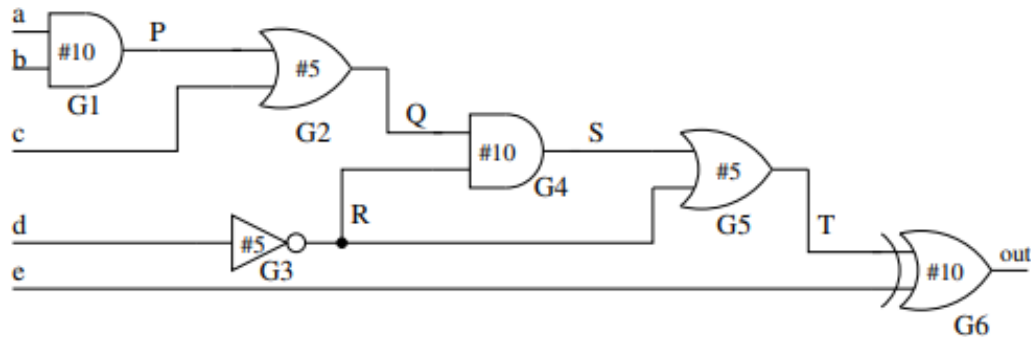

Figure 1
Consider the circuit shown in Fig. 1.
a) Run Static Timing Analysis (STA) on the circuit in Fig. 1. Write down the maximum delay of each node (P, Q, R, S and T) in the circuit.